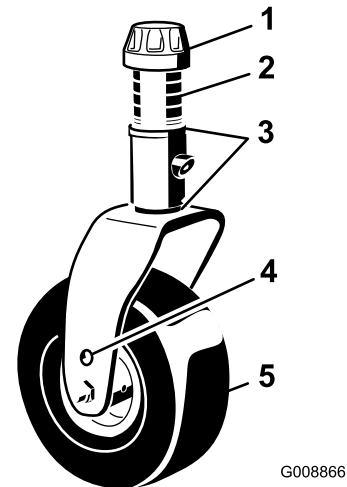
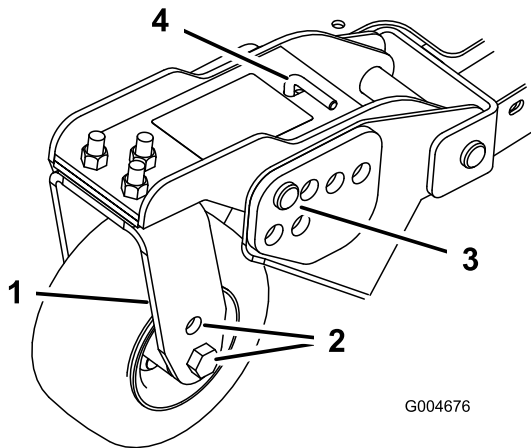
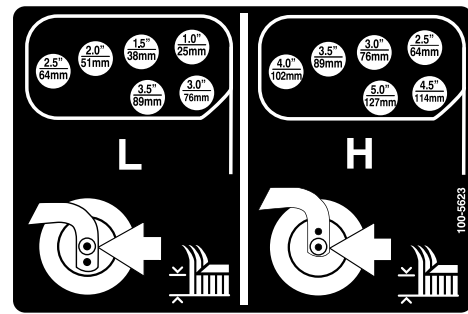

Figure 19
Figure 21
Figure 22
1. Position the caster-wheel axles in the same holes in all of the caster forks (Figure 19 and Figure 21).
2. Remove the tensioning cap from the spindle shaft and slide the spindle out of the caster arm (Figure 19).
- Remove the hairpin cotter and clevis pins from the caster-pivot arms (Figure 21).
- Rotate the tension rod to raise or lower the pivot arm until the holes are aligned with the selected height-of-cut bracket holes in the mower-deck frame (Figure 21 and Figure 22).